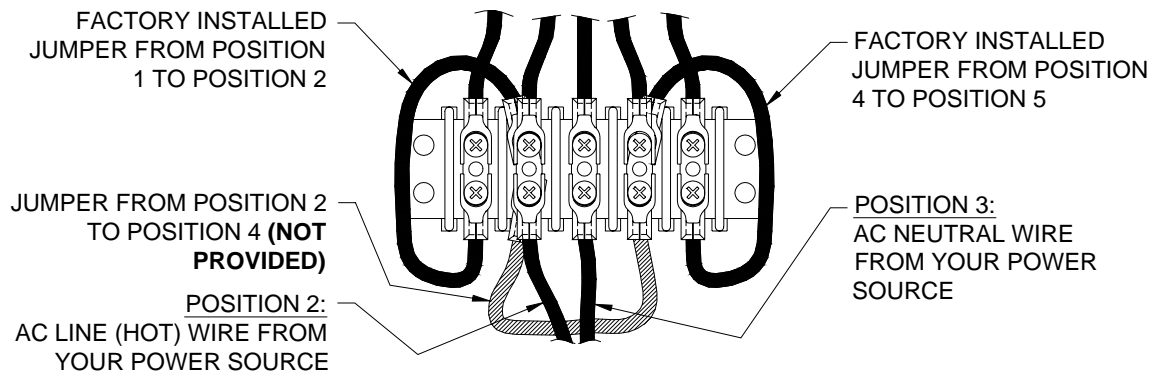

Figure 9 120 VAC Connections
- If you are going to connect the scoreboard to a 120 VAC supply, connect the AC line wire to position 2 and the AC neutral wire to position 3 of the MAIN POWER terminal block on the junction chassis. Add a jumper from position 2 to position 4. **This jumper is not provided.** Refer to figure 9.